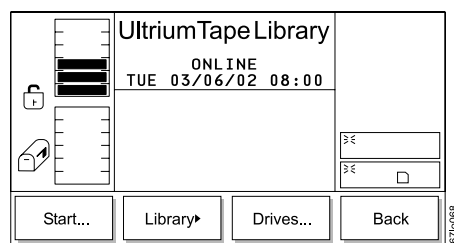

Figure 337. Service Menu
2. Press the button below the **Service** softkey. The Service Menu displays (see Figure 337).